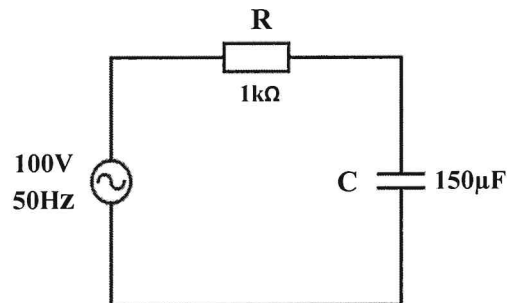

Figure 2 (a) / Rajah 2 (a)
- b) Referring to series RC circuit in **Figure 2(a)**, determine: